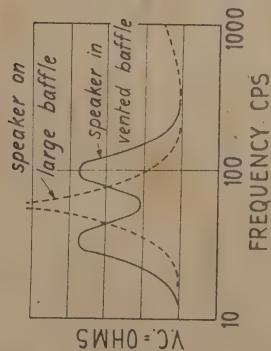

FIG. 2
contained in the box should equal that of the loud-speaker cone. If this achieved, the effect on the low-frequency performance of the speaker is somewhat as in Fig. 2. The box greatly reduces the bass resonance of the speaker, by adequately loading it at this frequency, and instead produces two peaks in the impedance curve, one slightly higher in frequency, and one slightly lower than the original speaker resonance. Quality of bass reproduction is improved because of (1) the reduction in amplitude of the resonant rise, (2) the extension of the low-frequency response of the speaker, and (3) the fact that the vent acts in such a way that the low-frequency energy radiated from the back of the cone is projected from the vent in phase with that from the front of the cone, thereby increasing again the low-frequency output of the combination when compared with the same speaker unit used on a conventional flat baffle.